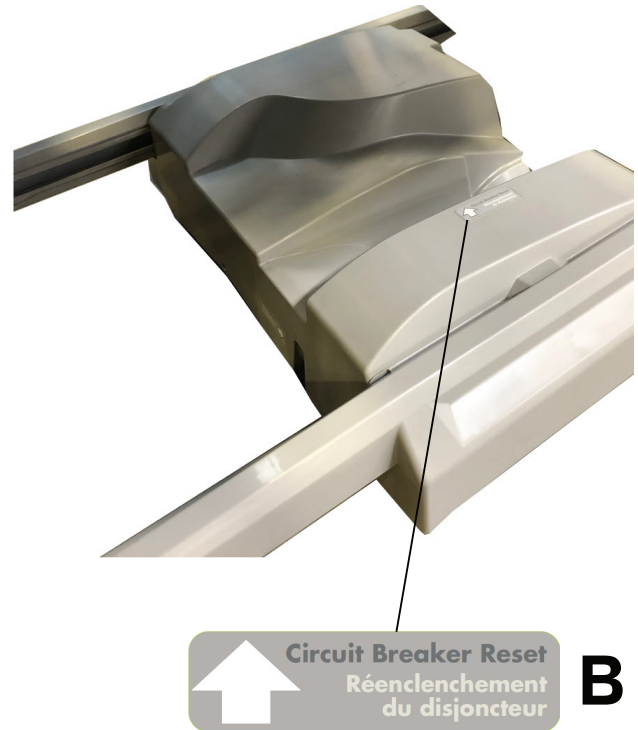

Figure 7 – Zoom Circuit Breaker Reset
1. Push the Circuit Breaker Reset button on the **Zoom** base (Figure 7) (**Zoom** option only).
- Trip the Circuit Breaker Reset (B) when you place the product into storage (**Zoom** option only) (Figure 7).